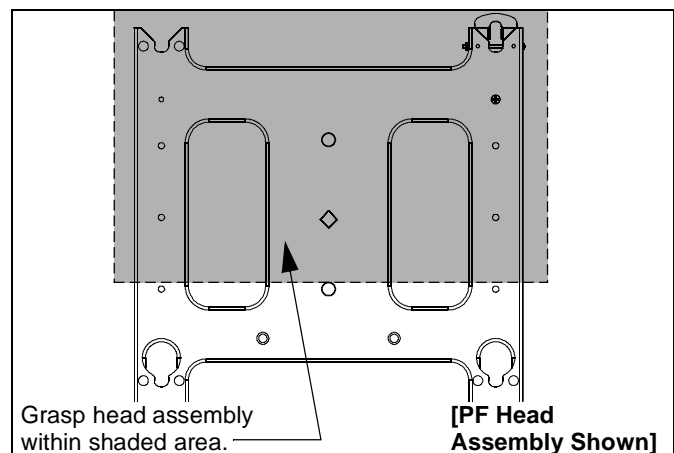

Figure 10
1. Firmly grasp head assembly. (See Figure 10)